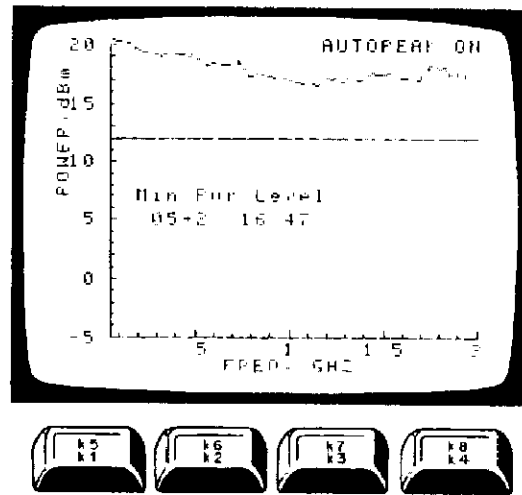
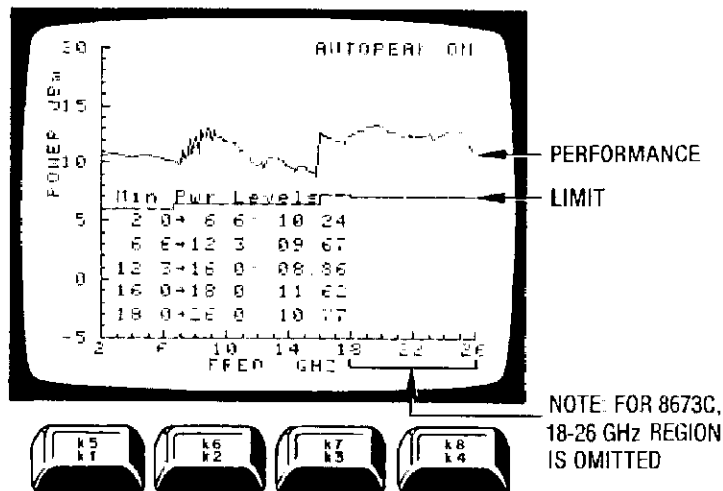

Figure 5-34. Low Band Maximum Power
Figure 5-35. HP 8673D Maximum Power with K-Band (16—26 GHz) Amplifier
- After the adjustment is performed, press **k5** to run the HET maximum power test. For the HP 8673D also run the DWITH maximum power test by pressing **k4**. DWITH should be run in the NORMAL mode instead of BYPASSED. Autopeaker should also be on. Examples of each are shown in figure 5-34 and figure 5-35 respectively.